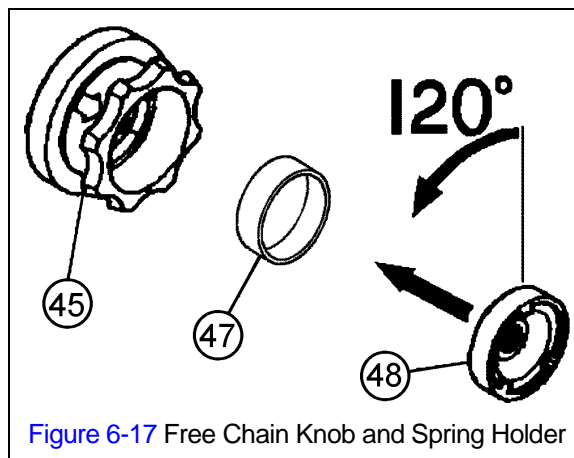

Figure 6-17 Free Chain Knob and Spring Holder
- 5) The Free Chain Spring is **NOT USED** for the Boeing version. Proceed to step 6 for the installation of the Collar. The Collar takes place of the Free Chain Spring. Refer to Figure 6-17.
- 6) Place the collar (47) inside the free wheel knob (45). Install the spring holder (48) onto the pinion serration and hold it in place. Refer to Figure 6-17.
- 7) While holding the (48) Spring Holder in place, fasten it in place with the (49) Slotted Nut and (50) Split pin.